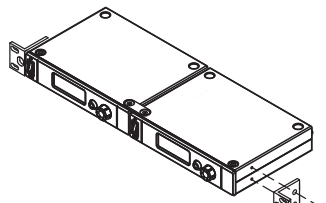

Fig. 10
(C) Rackmount with an optional rack-mount kit, as Fig. 10.